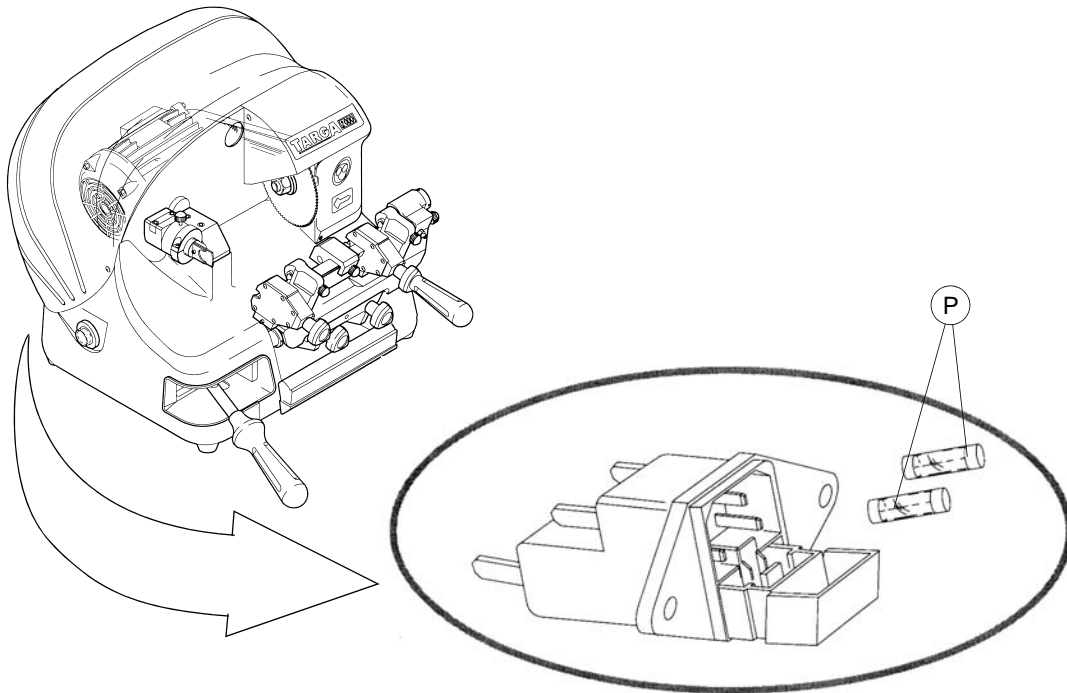

Fig. 22
- 3) Remove the fuse box placed below the power inlet (Q) (fig. 22).
- 4) Replace the fuses (P).